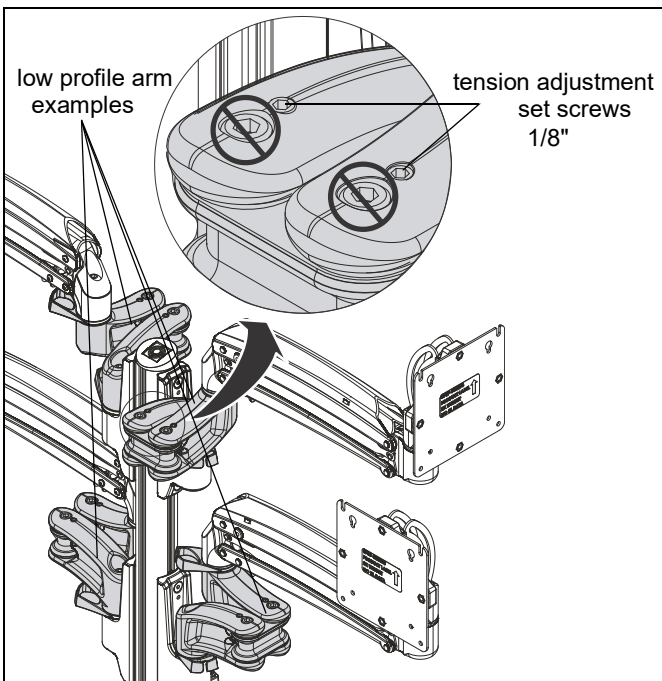
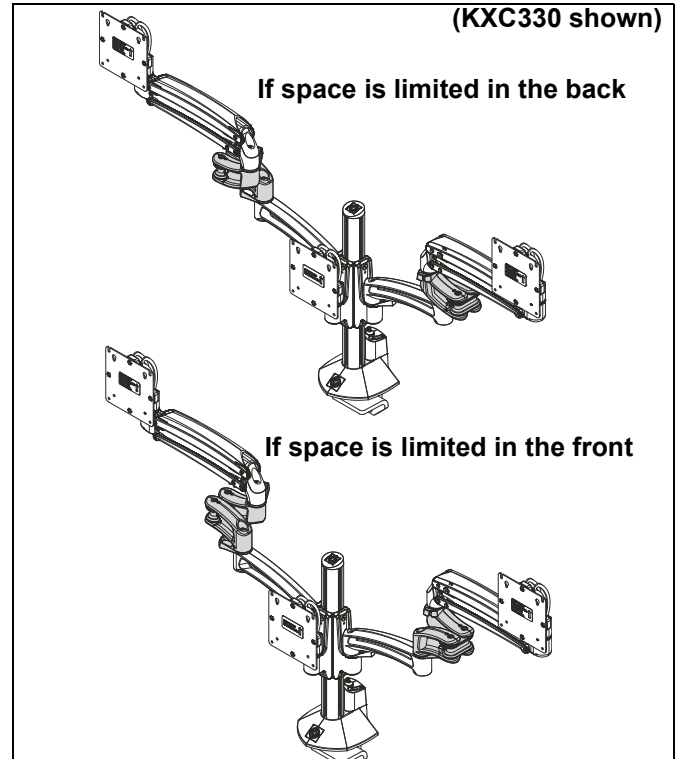

Figure 14
Figure 15
1. Adjust inside arm to achieve desired low profile depth. (See Figure 14) and (See Figure 15)
2. Use 1/8" hex key (L) to adjust low profile tension screws to change tension. (See Figure 14) and (See Figure 15)
(See Figure 14)